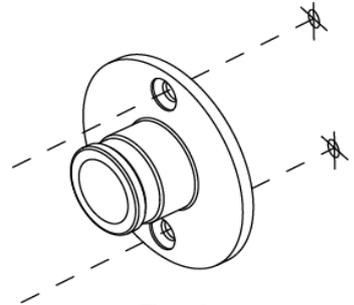

Fig.3
3. Select desired position of rod and mark centres of the mounting holes using the wall brackets as a template (Fig. 3).